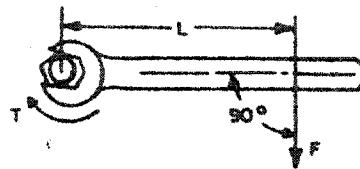

Figure 5.18. Wrench Without Adaptor
2. In Figure 5.18 the lever length of the wrench from the center of the nut to the center of the hand applying the force is represented by "L". The applied force is indicated by "F". Since torque "T" is the product of the applied force multiplied by the effective lever length, it can be calculated by using the formula:  $T = F \times L$ .